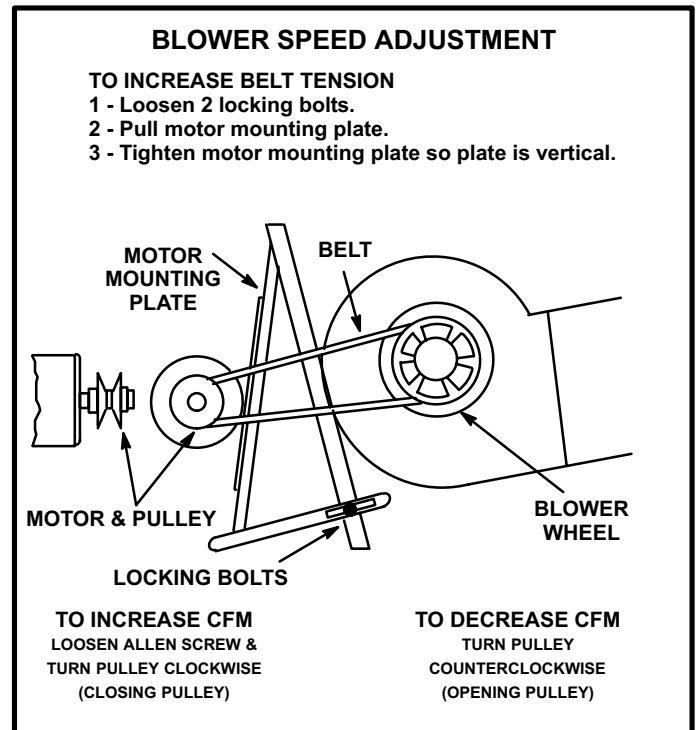

FIGURE 29
- 5- The CFM can be adjusted at the motor pulley. Loosen Allen screw and turn adjustable pulley clockwise to increase CFM. Turn counterclockwise to decrease CFM. See figure 29.
Maximum life and wear can be obtained from belts only if proper pulley alignment and belt tension are maintained. Tension new belt after a 24-48 hour period of operation. This will allow belt to stretch and seat grooves. To increase belt tension, loosen locking bolt and pull mounting plate. Tighten bolt so that the motor mounting plate is in a vertical position. See figure 29.
4 - See figure 29 for speed change instructions.